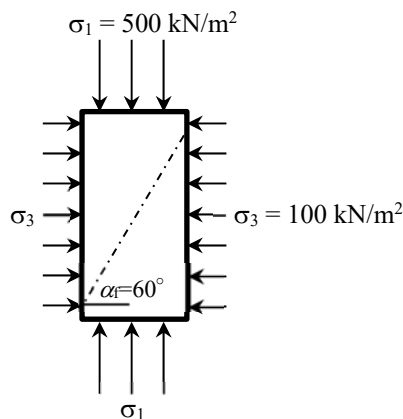

Figure 4
- (1) A consolidated drained triaxial compression test was conducted on the silty soil specimen under the condition of the constant confining pressure, $\sigma_3 = 100$ kN/m² after an isotropic consolidation. When the axial stress reached $\sigma_1 = 500$ kN/m², a failure occurred with a 60° failure surface measured counterclockwise from the maximum principal stress plane as shown in Fig. 4. Answer the following questions.